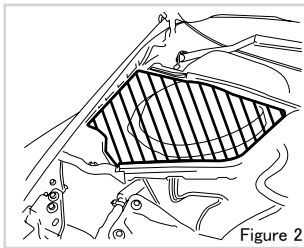

Figure 2
- Remove the plastic cover (see figure 2, section with diagonal lines). If you do not wish to remove the cover, you may trim/ cut the cover in order to create enough clearance for the hood damper.